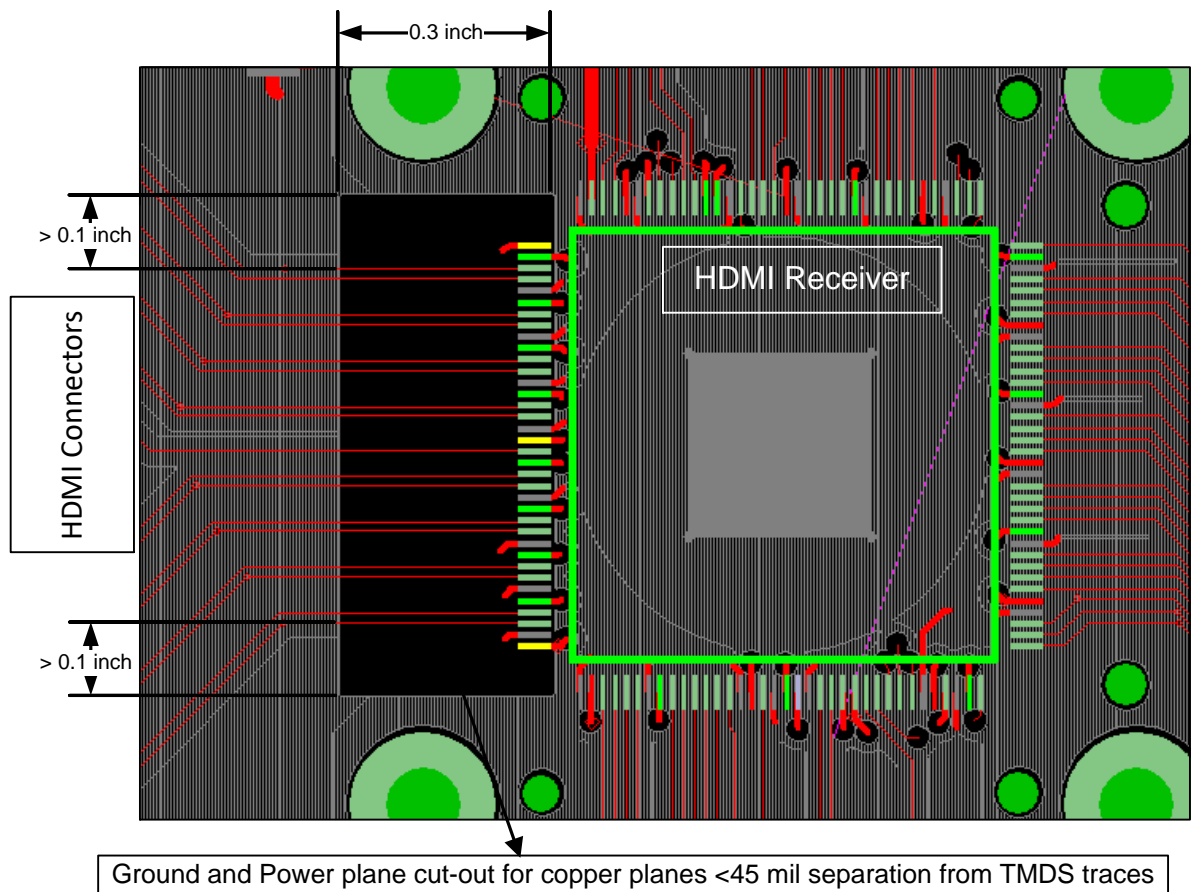

Figure 9.2. Cut-out Reference Plane Dimensions
- Cut out all ground and power copper planes that are less than 45 mils underneath the TMDS traces near the receiver with the dimensions shown in Figure 9.2.